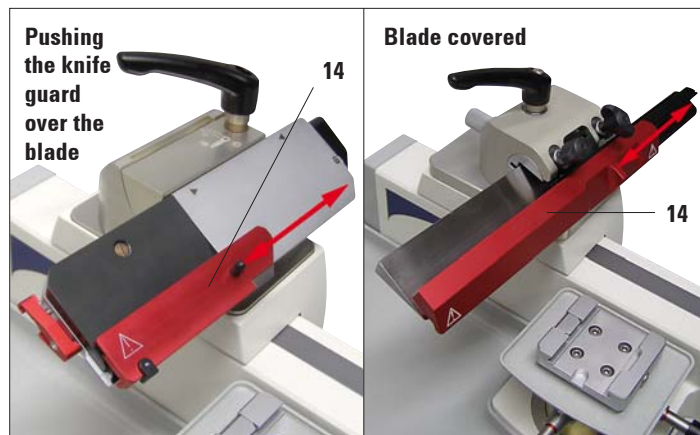

Fig. 3
The blade holder is equipped with a tightly mounted knife guard (14). This makes it possible to cover completely the cutting edge of the blade (Fig. 3).